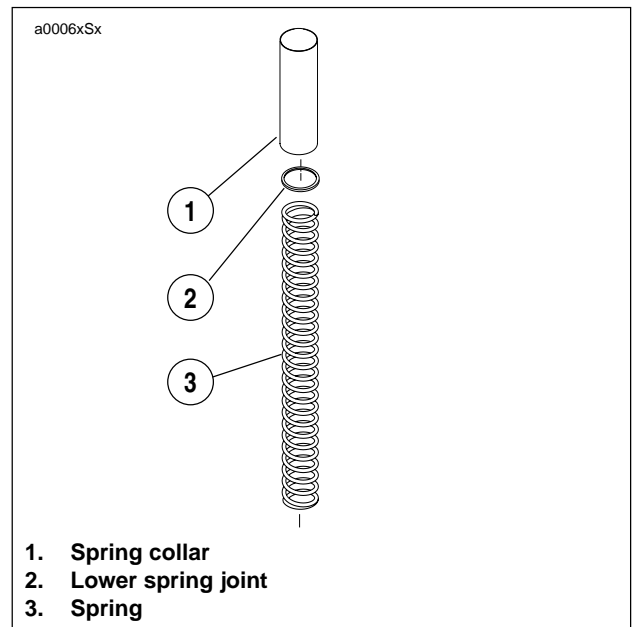

Figure 1-29. Removing Sub-Assembly
5. See Figure 1-29. Remove the spring collar, lower spring joint and spring from slider tube.